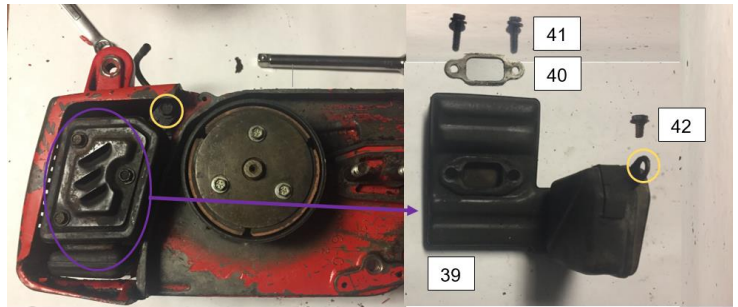

Figure 20: Muffler Subassembly Removal
Step 17: Rotating the main assembly to the Clutch Side, the Muffler (39) can be removed. Use a 3/8in socket wrench to unscrew the Muffler Bolt-B (42) and remove the Muffler from the main assembly. Use a 3/8in socket wrench to unscrew two Muffler Bolts-A (41) and manually remove the Muffler Gasket (40) from the Muffler. (Figure 20)